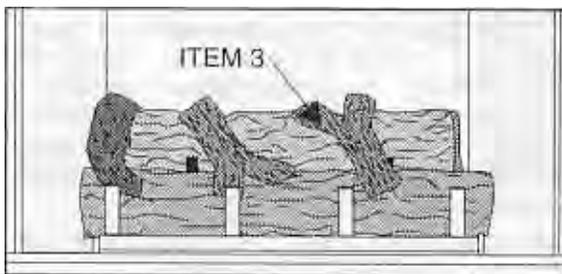

Figure 45
6. See Figure 45. The remaining "Y" Log (Item 3) is installed next. This time the straight portion of the log lies on the front log on the indentation near the center. Angle this Log slightly to the left and rest the "Y" portion on the indentations located near the center of the Back Log.